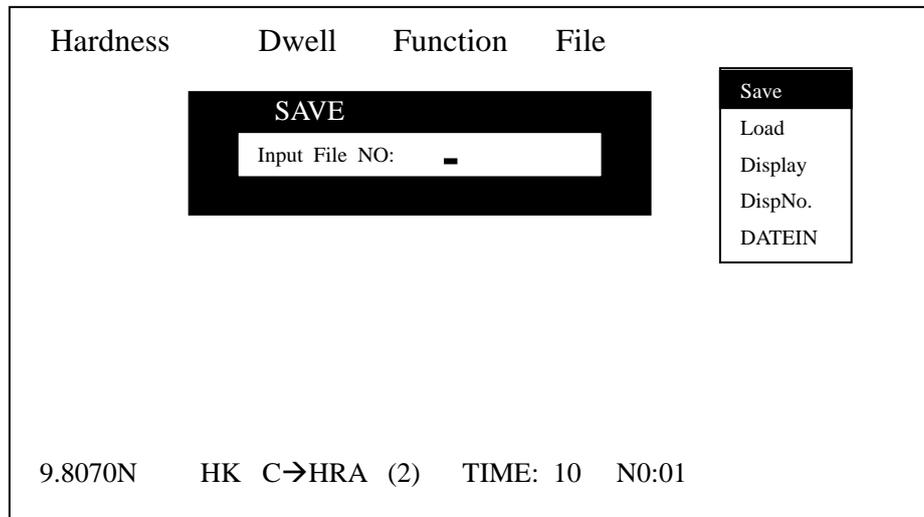
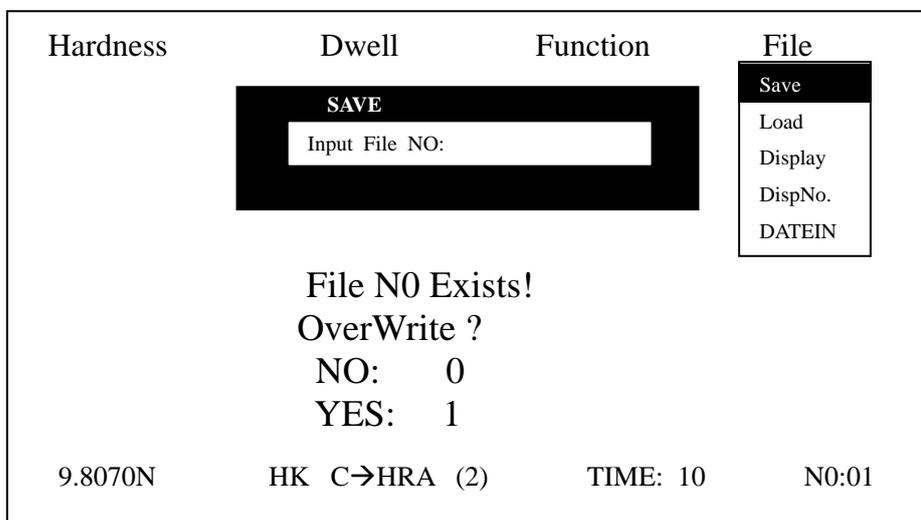

Figure 12
Figure 13
As shown in Figure 12, a dialogue box will pop up when SAVE function is selected and you need to input the file number. Please note that file number is input through num keys and must contain 6 digits, which can be randomly decided by you. If the input number is the same as one file number already in store, a warning will be given and the machine will ask if you need to replace the old file. Press 0 for no and 1 for yes. Please see Figure 13 as an example.
- 4.22 As the machine can only store 28 files in maximum, you have two alternatives when you want to save new files after the storage is full. If you continue saving a new file, the first file in store will automatically be deleted. For example, if there are 28 files already in store with numbers from 00~27, then file numbered 00 will be removed after you save the new file. So the new file list in store becomes 01~28 and the last file will take on the file number 28. The other alternative is to replace existing files in store. Use Save function and the stored data will be totally replaced by the current data, file order and file number remaining unchanged. (Figure 12, 13)